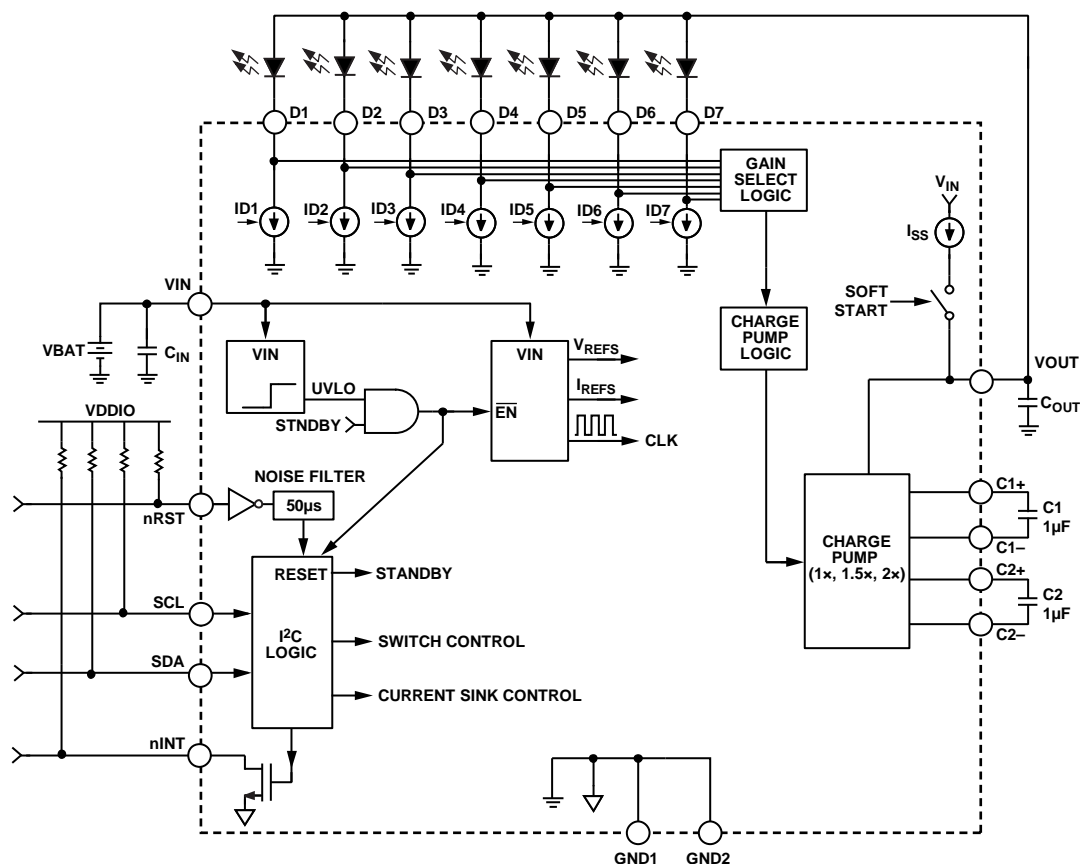

Figure 25. Detailed Block Diagram
By charging the capacitors in different configurations, the charge, and therefore the gain, can be optimized to deliver the voltage required to power the LEDs. Because a fixed charging and discharging combination must be used, only certain multiples of gain are available. The ADP8861 is capable of automatically optimizing the gain (G) from $1\times$, $1.5\times$, and $2\times$. These gains are accomplished with two capacitors (labeled C1 and C2 in Figure 25) and an internal switching network.